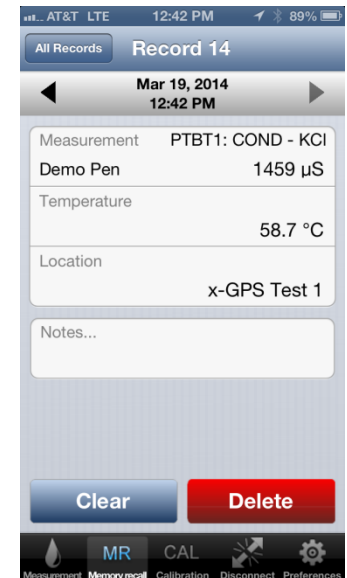

Figure 23
4. The Single Record Display screen will appear. It includes the following fields and control (see Figure 23).